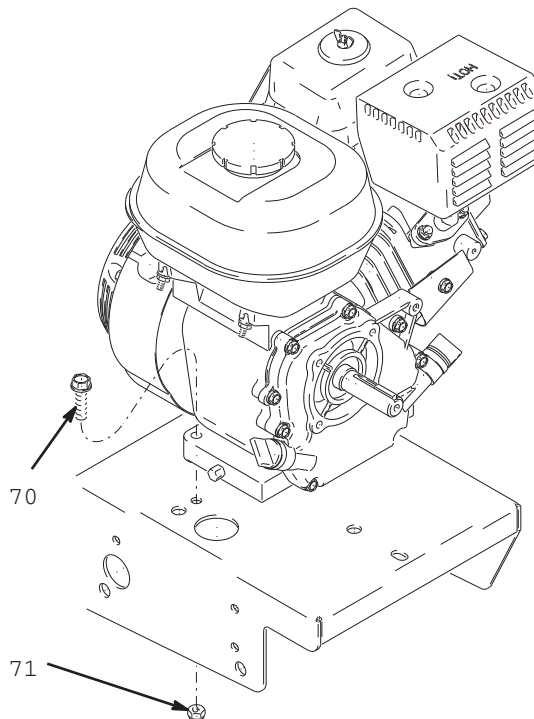

FIG. 18
1. Lift engine carefully and place on cart (FIG. 18).
2. Install two screws (70) in base of engine and secure with lock nuts (71) (FIG. 18). Torque to 200 in-lb (22.6 N.m).
If pin works loose, parts could break off due to force of pumping action. Parts could project through the air and result in serious injury or property damage. Make sure pin (101) and retaining clip (20a) are properly installed. See Detail A. Fig. 18.